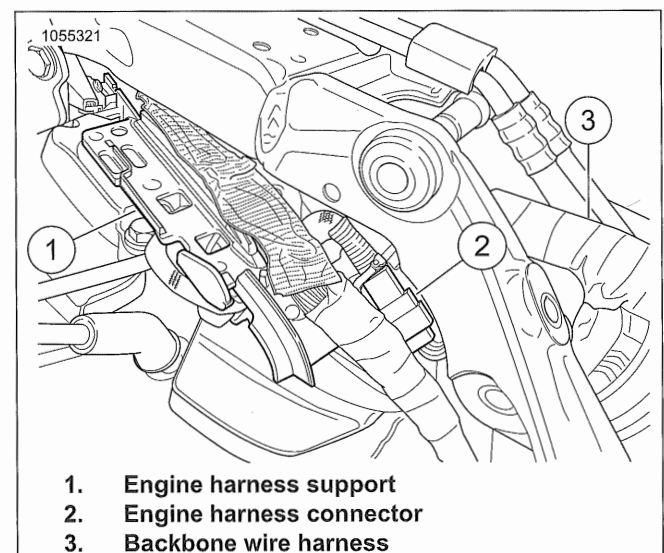

Figure 7-160. Engine Harness Support
8. See Figure 7-160. Move engine harness support (1) outward.
9. Disconnect engine harness connector (2) from backbone wire harness (3).
2. See Figure 7-160. Connect engine harness connector (2) to backbone wire harness (3).